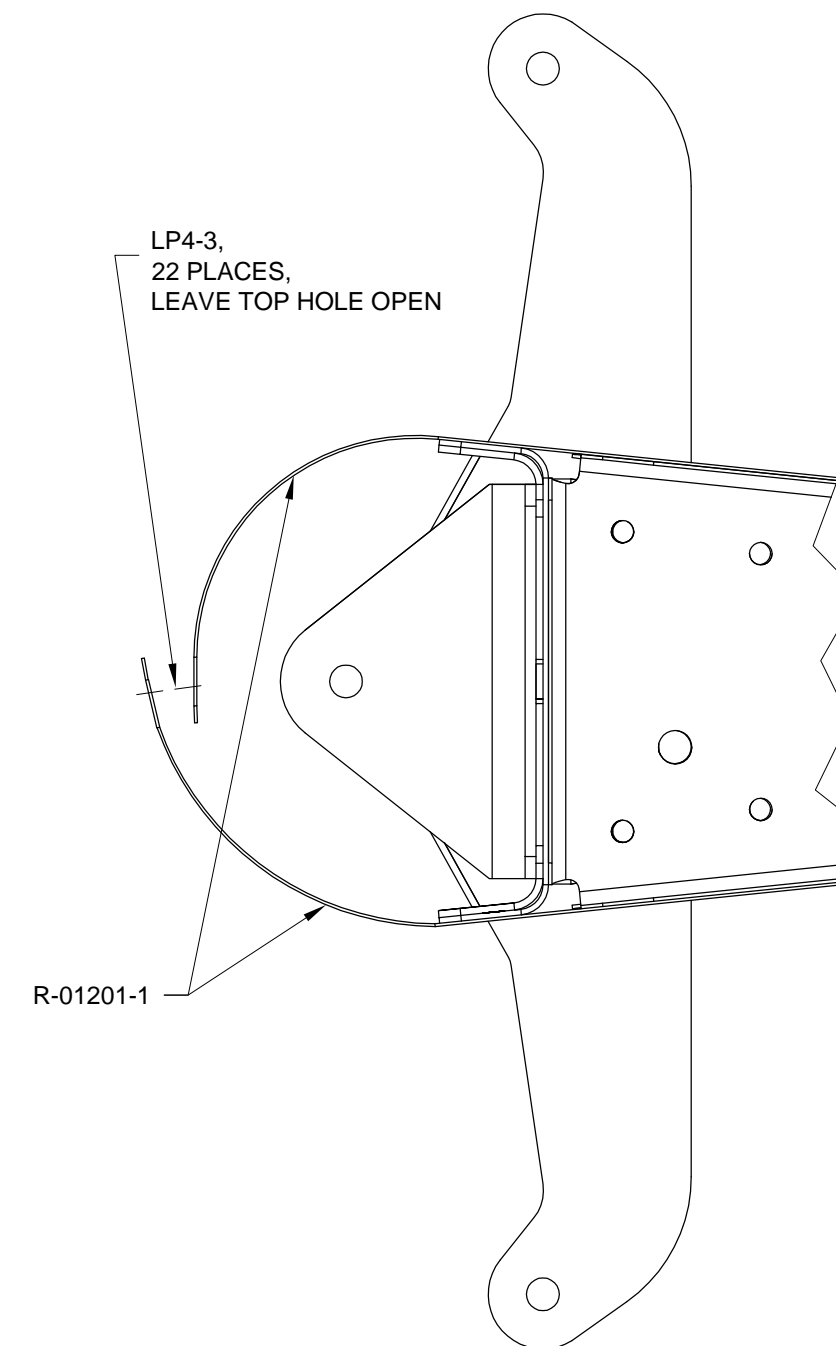

FIGURE 3: SKIN CLOSURE (TOP VIEW)
Step 4: Close and rivet the skin on the forward side of the R-1202 Spar. The skin must overlap onto itself as shown in Figure 3.